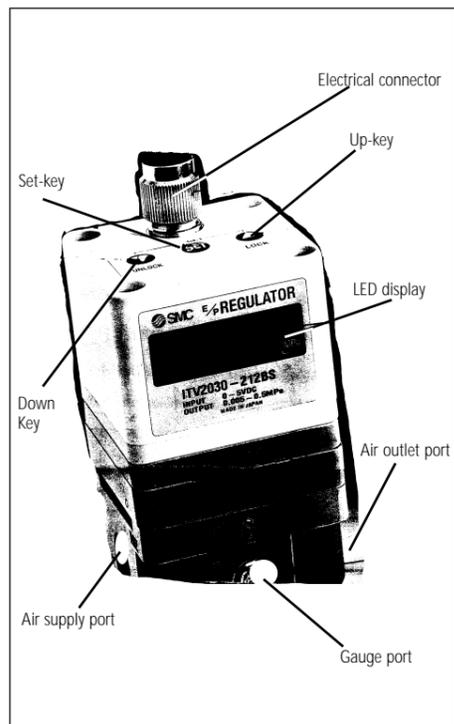

Fig 1
Note: If the supply exceeds 30mA the sensor will output to the LED display (Fig 1) and show 'Er 5'.
- Release 'lock key' (Fig 1) as explained in section - 'Function of key-lock'.
- To set minimum pressure (display shows F-1 Fig 1) use up/down keys (Fig 1) to set minimum pressure, press 'set' key (Fig 1) to 'lock' setting.
- To set maximum pressure (display shows F-2 Fig 1) use up/down keys (Fig 1) to set maximum pressure, press 'set' key (Fig 1) to 'lock' setting.
- To set switch output 1 (display shows P-1 Fig 1) use up/down keys to set switch output, press 'set' key (Fig 1) to 'lock' setting.
- To set switch output 2 (display shows P-2 Fig 1) use up/down keys to set switch output.
Push 'down' key (Fig 1) for longer than 2 seconds. Display (a) flashes 'loc'.
1. Push 'set' key (Fig 1) lock automatically releases.
Note: Push 'down' key (Fig 1) again to cancel operation.
1. Push down on 'un-lock' (Fig 1) key for longer than 2 seconds.
Note: To cancel push 'lock' key (Fig 1).
1. Push down on 'up' Δ (Fig 1) for longer than 2 seconds.
3. Push 'set' key (Fig 1) to lock.
Note: To cancel push 'down' key (Fig 1).
If an abnormality is detected by the ITV3000, the LED display (Fig 1) will show 'Er' followed by a code number. Isolate the power supply and ascertain and solve the problem. Re-instate power supply after correcting the fault.
Push up and down keys (Fig 1) together for longer than 3 seconds. Display (Fig 1) shows 'RES'. Release keys, minimum, maximum pressures, switch outputs P1 and P2 are reset to start condition.